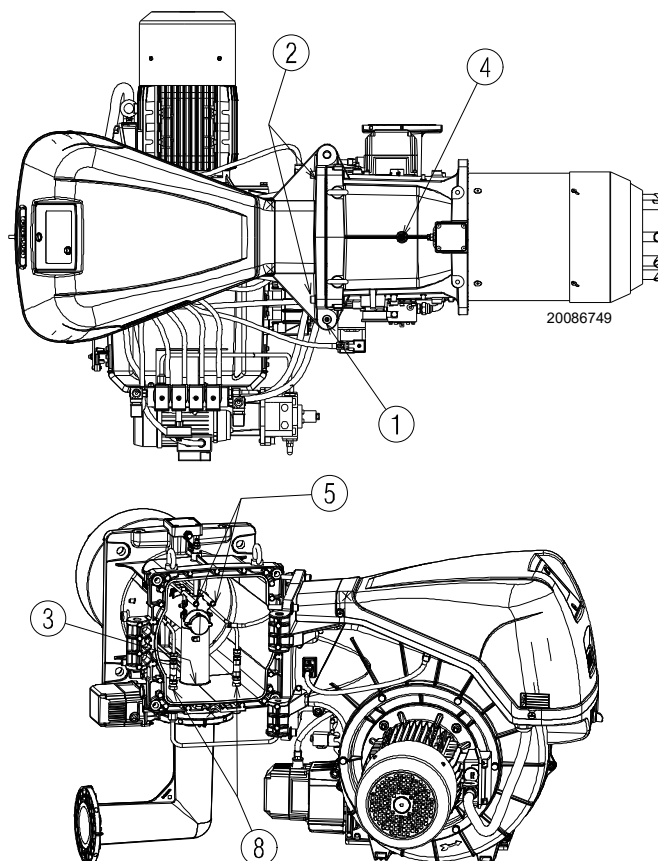

Fig. 17
The burner leaves the factory set for opening to the right, therefore maintaining the pin 1)(Fig. 17) in its housing.
- C** Fully open the burner as in Fig. 17;
To open the burner from the opposite side, before removing the pin 1)(Fig. 17), make sure that the 4 screws 2) are tight. Then shift the pin 1) to the opposite side, only then is it possible to remove the screws 2). Disconnect the socket 9 (Fig. 17) of the maximum gas pressure switch, then proceed as described above at point **C**).